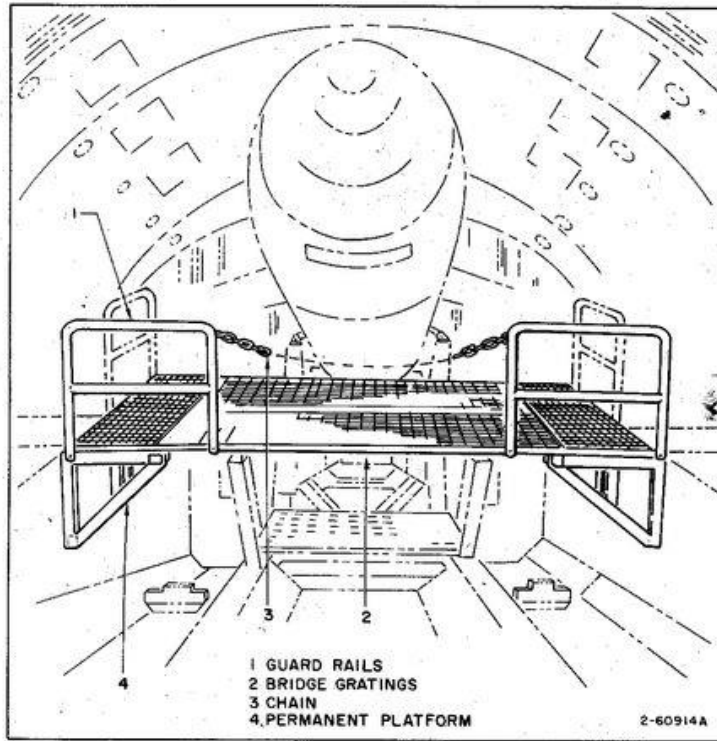

Figure 3-3. Installation of Nose Access Maintenance Platform
- a. Install bridge grating (2, figure 3-3) beneath Nose Section.
- b. Extend forward and aft guard rails (1).
a. Disconnect chain from between forward guard rails (1, figure 3-3).
b. Fold forward and aft guard rails (1) into stowed position.
c. Remove bridge grates (3) and stow between Launcher wheel tracks in Launch Bay.